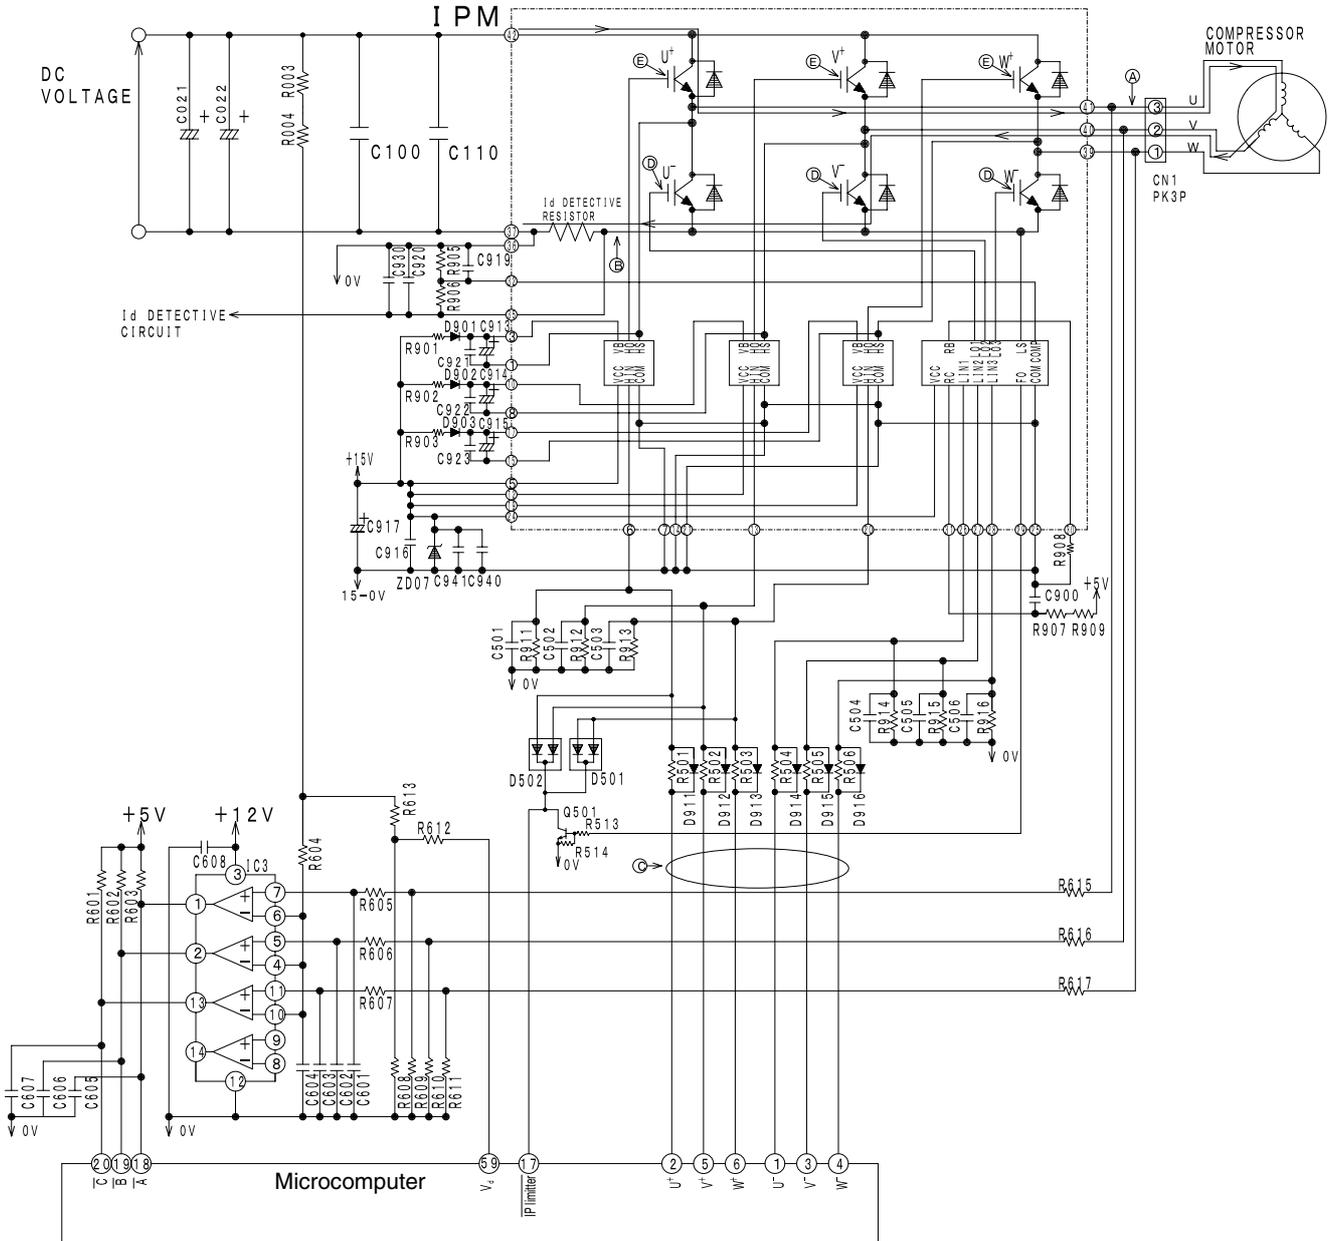

Fig. 4-1 Intelligent power module circuit (U^+ is ON, V^- is ON)
- Fig.4-1 shows the intelligent power module and its peripheral circuit. The three transistors on the positive E^+ side are called the upper arm, and the three transistors on the negative E^- side, the lower arm.